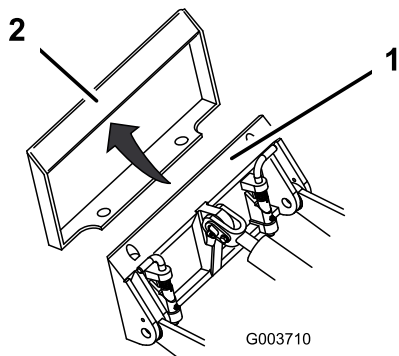

Figure 19
4. Position the mount plate into the upper lip of the attachment receiver plate (Figure 19).